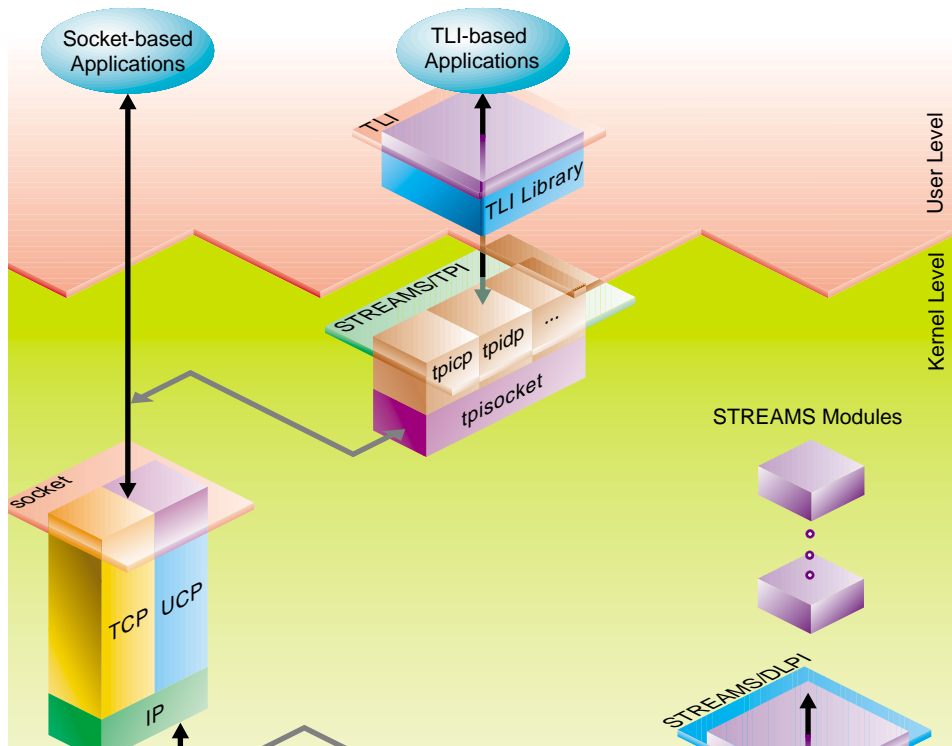

Figure 17-1 Overview of Network Architecture
A network driver is a kernel-level driver module that connects a communications device such as an Ethernet board to the IRIX implementation of TCP/IP. An overview of the IRIX networking subsystem is shown in Figure 17-1.
- using the BSD socket interface (top left of Figure 17-1)
- using the SVR4 TLI interface through compatibility libraries that convert TLI operations into socket operations (top center of Figure 17-1)
- using a STREAMS interface to a STREAMS-based protocol stack (top right of Figure 17-1)
A *protocol stack* is the software subsystem that manages data traffic according to the rules of a particular communications protocol. There are two ways in which a protocol stack can be integrated into the IRIX kernel. The TCP/IP stack creates and uses the *ifnet* interface to drivers (bottom left of Figure 17-1) and the socket interface to applications (top left of Figure 17-1).
Alternatively, a stack written to the DLPI architecture can communicate with STREAMS drivers (bottom right of Figure 17-1).